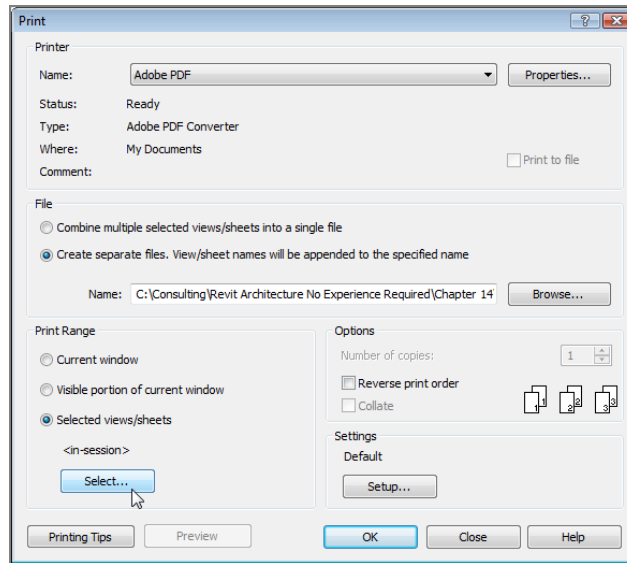

FIGURE 14.31: Choosing the options to print the drawings
5. Click the Select button, as shown at the lower left of Figure 14.31.